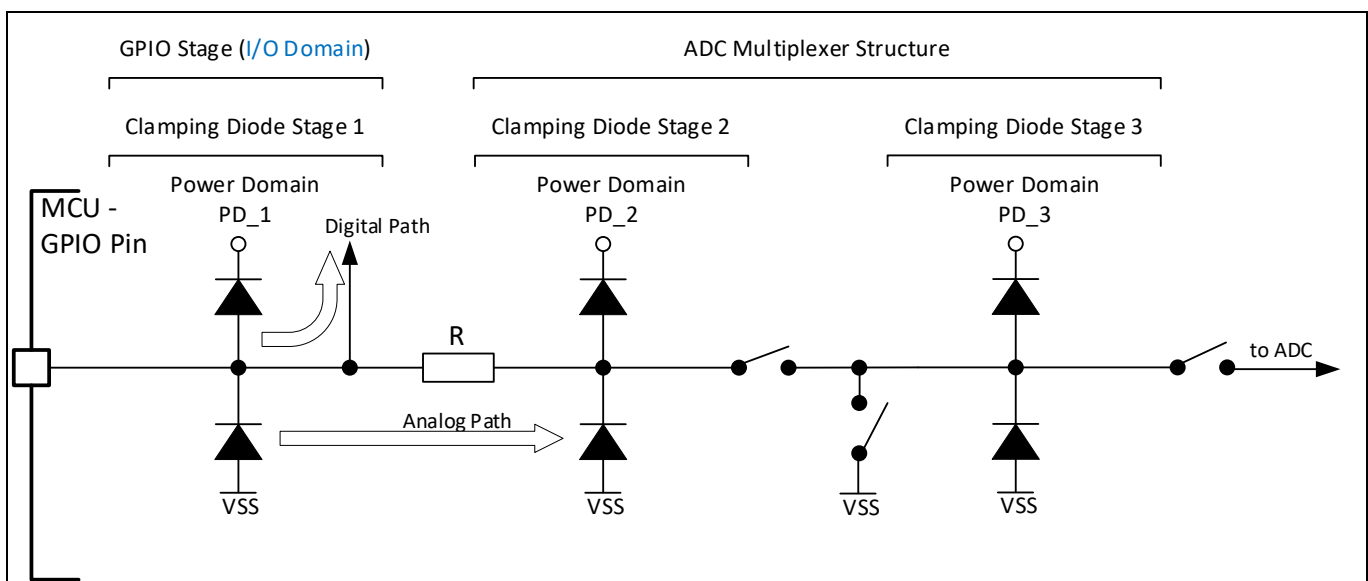

Figure 17 Clamping structure of I/O pins with shared analog functions
It is important to identify the power supply domains that must have a common supply level in each application. **Figure 17** and **Appendix G – Clamping structure of I/O pins with shared analog functions** provide the overview of the clamping structure and the consequences when the analog input function is used on dedicated power domains. When any port pin of a dedicated power domain (PD) is applied as an analog input, the domain must have the same or lower voltage level than the analog supply (VDDA_ADC). **Appendix G – Clamping structure of I/O pins with shared analog functions** lists the special use cases.